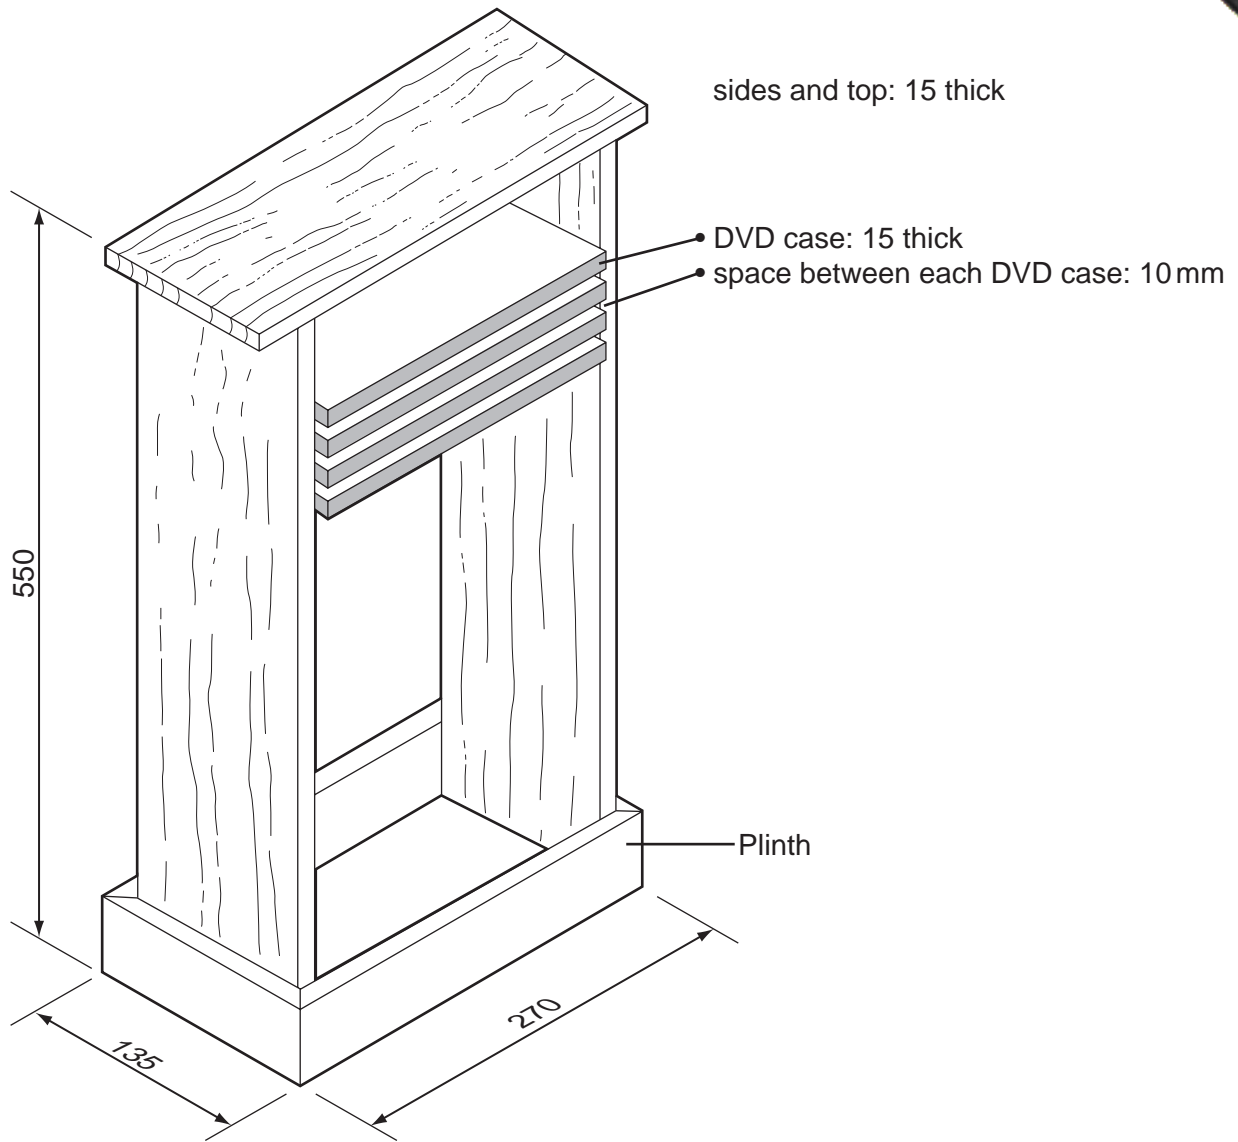

Fig. 6
- 4 Fig. 6 shows an incomplete DVD storage unit made mainly from a good quality hardwood. The unit will store twenty DVDs. Four DVDs are shown in position.